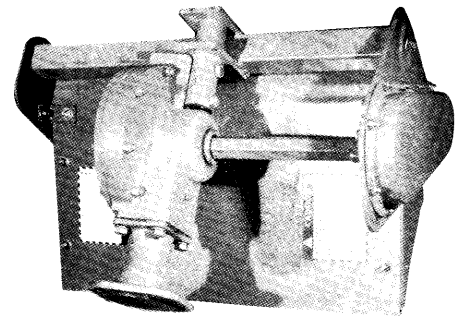

Fig. 4
1. Position drive on side with top of drive towards hex drive shaft (item 18) of Rotary Cultivator. (the lubrication fitting is in the top of the drive).
3. Secure drive to frame weldment with bolts (item 19). See Fig. 4